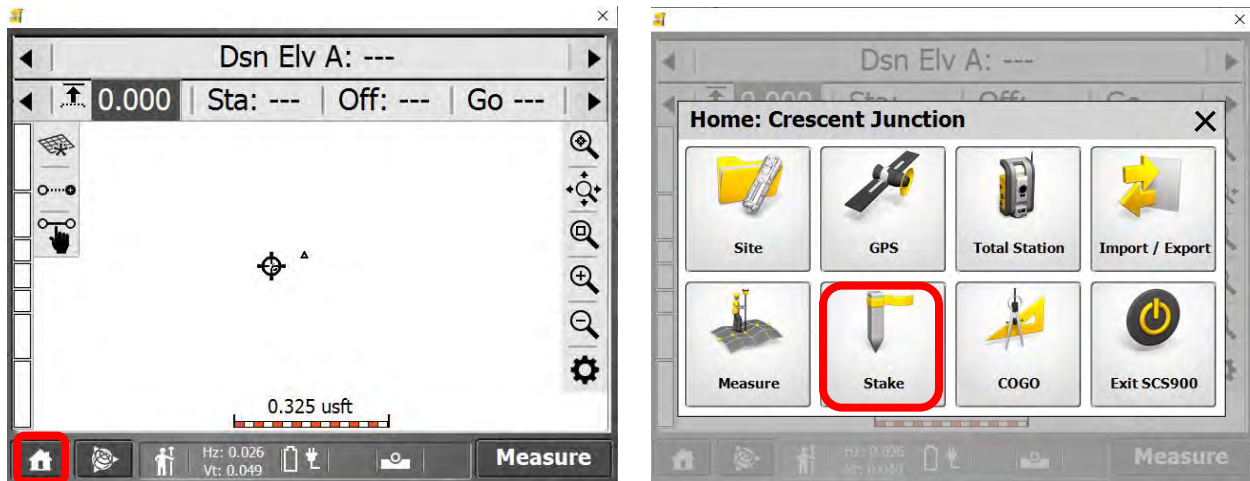

Figure 4. Switch into Stake Mode
Step 4: Once the rover has been checked into a control point, switch into “Stake” mode. To do so, hit the Home Key, and then select Stake (Figure 4).